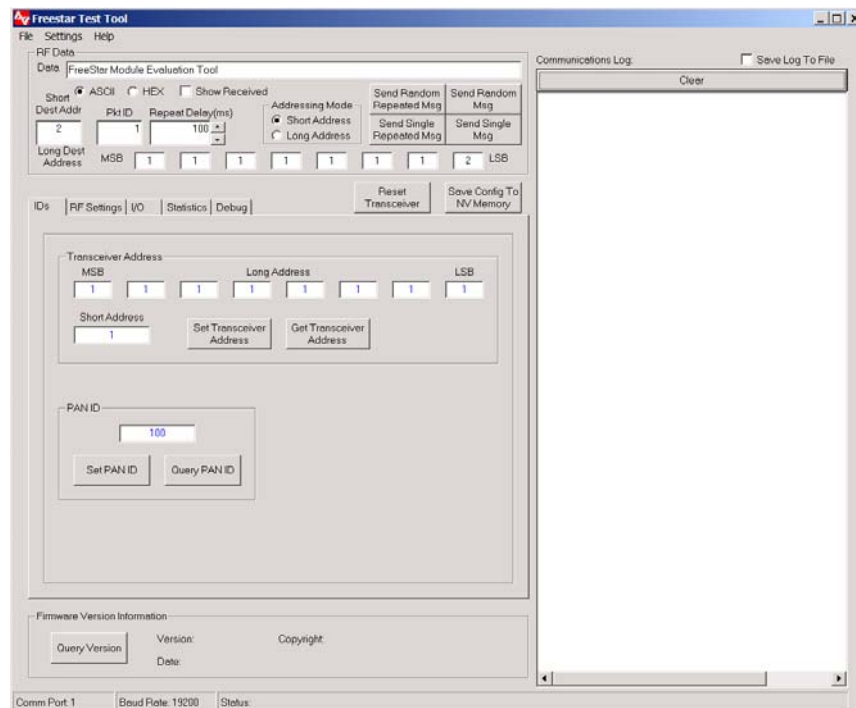

Figure 4-1. Evaluation Software - Main Screen
The FreeStar evaluation software was designed to give the developer an ability to quickly test the features built into the FreeStar module. The evaluation software is described in the following sections. A screen shot of the evaluation software is shown in Figure 4-1. Developers please refer to chapter 5 for information on building custom applications for use on the FreeStar module.
4.2.1 ***Main Section of Test Tool (Upper left portion of the Test Tool as shown in Fig 4-1)***
4.2.2 Setting Device Identification (See Figure 4-1)